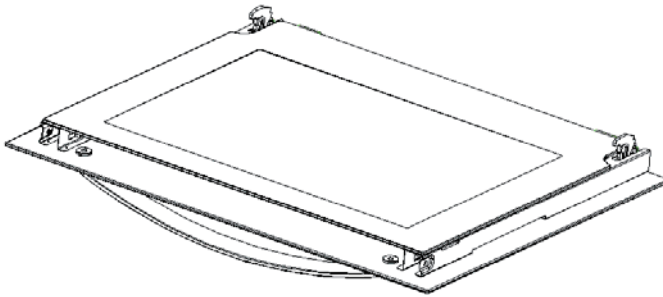

Figure 6
2. To move out the beam, as shown in figure 6.